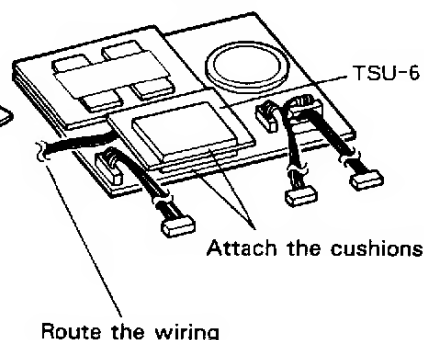

Fig. 4
3. Gently place the DRU-1 in the transceiver as shown in Fig. 3. Don't forget to attach the TSU-6 as shown if you are installing this unit at the same time (Fig. 4). Tighten the screw.